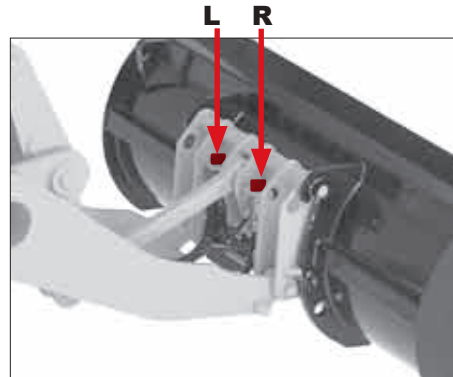
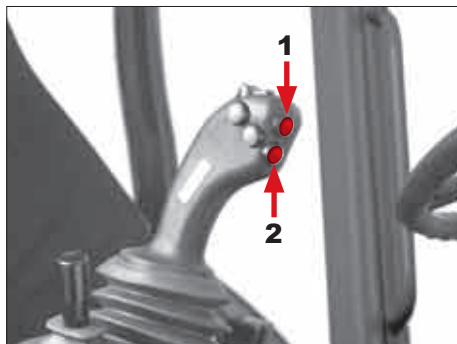

Fig. 43
Fig. 44
You can activate the loader lift arms hydraulic connections (Fig.43) using the control lever for the optional hydraulics item Z (Fig.41).
If the valve lever is set to »Hydraulic locking mechanism«, you can actuate the loader lift arms's hydraulic connections (Fig. 43) via the control lever for the optional hydraulics Item Z (Fig. 41).
You can activate the hydraulic connections on the loader lift arms (Fig. 43) using the buttons for the optional hydraulics Item 1 and Item 2 (Fig. 44).
You can also activate the hydraulic locking mechanism of the quick-change system for the attachments with the buttons for the optional hydraulics (Fig. 44).
If the lever of the valve is set to »Hydraulic locking mechanism«, you can activate the hydraulic locking mechanism via the buttons for the optional hydraulics, Item 1 and Item 2 (Fig. 44):
- Activate the button for optional hydraulics Item 1 (Fig. 44):
- Activate the button for optional hydraulics Item 2 (Fig. 44):
If the valve lever is set to »Hydraulic locking mechanism«, you can actuate the loader lift arms's hydraulic connections via the buttons for the optional hydraulics (Fig. 44).